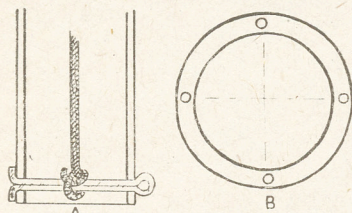
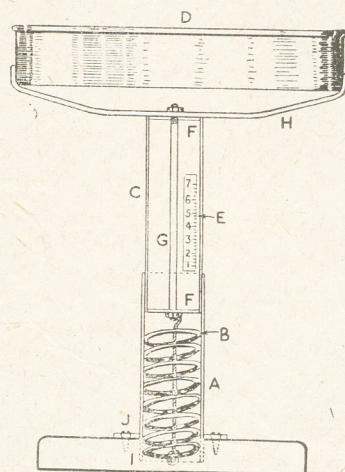

Fig. 2—The securing cord (A) and (B) pattern of collar for base
Fig. 1—Sectional view of parts and construction
THE spring-balance as shown in Fig. 1 is an extremely useful piece of domestic apparatus which can be quite easily constructed at very small cost. The design is novel and pleasing; there is nothing to go out of order, no loose weights to become mislaid and it is always ready for instant use.
A glance at the illustration, Fig. 1, clearly indicates its working principle. The lower tube (A) contains a compression spring (B). The upper tube (C) is an easy sliding fit in the lower tube and compresses the spring in direct relation to the weight placed in the scale-pan (D). A calibrated scale (E) is marked on the upper tube, which indicates the correct weighings.
Assuming that the reader has obtained a spring of the above dimensions, the lower tube which is of either brass or copper, must be 2ins. in internal diameter by 7ins. length. The inside must be nicely polished smooth and a very light smear of oil applied. The upper tube is of similar metal and must be 2ins. external diameter by 8ins. length. Two end-pieces, Fig. 1 (F), are soldered into place and the scale-pan carrier secured into position by a long bolt (G) which passes down the length of the tube and is bolted through and on the end-pieces.
Near the bottom of the larger tube is drilled two small holes and a split-pin passed through and secured by opening and turning the ends over—Fig. 2 (A). A thin cord or small chain is then fastened under the bolt (G), the spring inserted in tube (A) then the smaller tube (C) inserted inside the larger tube and pushed down until the spring is slightly compressed.
The stand should be made from a fairly substantial piece of wood. A hole is drilled nearly through of the same external diameter as that of the lower tube (I). The tube is then pressed in as far as possible and securely located in position by a collar or ring. The collar is made from brass ¼in. thick to the pattern as shown in Fig. 2 (B). This is slipped over and down the tube and is tightly screwed into the baseboard with four screws, Fig. 1 (J). It is then sweated with solder around the tube, thus making a firm and stable assemble.
The T handle, Fig. 1, generally breaks off at the joint with the shaft. It can be made as good as new by first cutting off all rotted or broken parts and then cutting down to a shoulder to fit tightly in the top bar and then to drive in a good wedge. It might be that only a nicely fitted wedge was necessary—cut this from hard wood and do not make the taper too sharp. All wedges should be glued before tapping home to prevent any possibility of them working loose.
Sometimes the top bar is just screwed on to the shaft. This is not at all satisfactory and should be altered to fit as in Fig. 1.